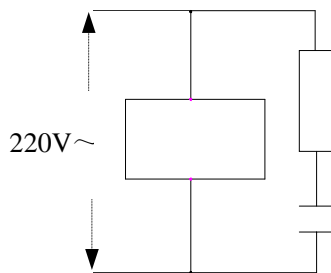
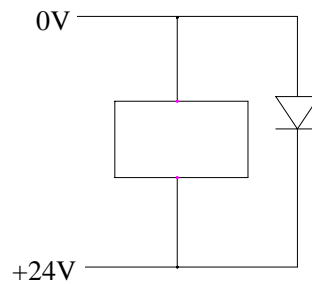

Fig.1-5
Fig.1-6
- 3, Noise suppressor: Parallel connect RC-type loop with AC coil (as fig.1-5) and RC-type loop must be as near as possible to inductance load. Conversely parallel connect diode with DC coil (as fig.1-6). Parallel connect surge absorber with coil of AC motor.